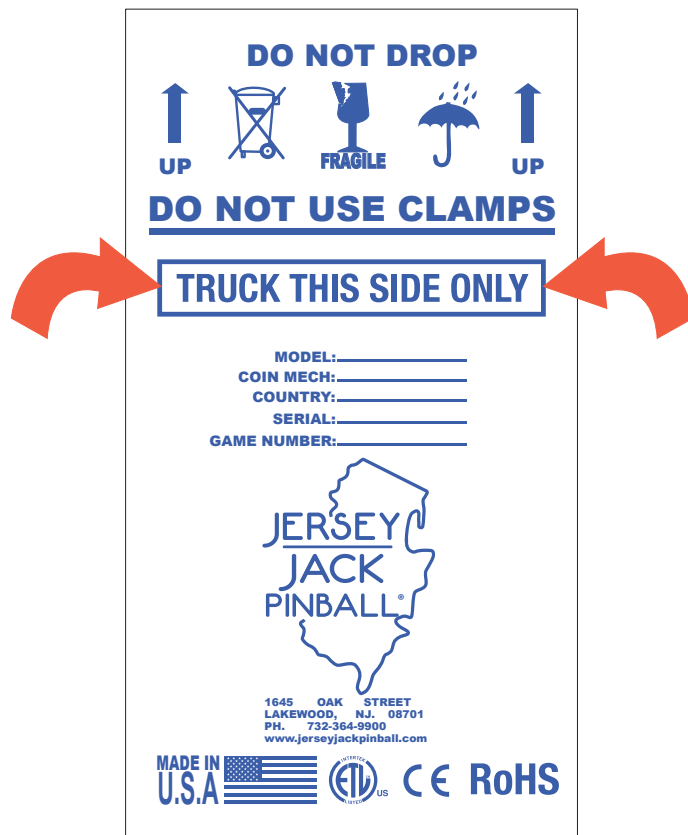
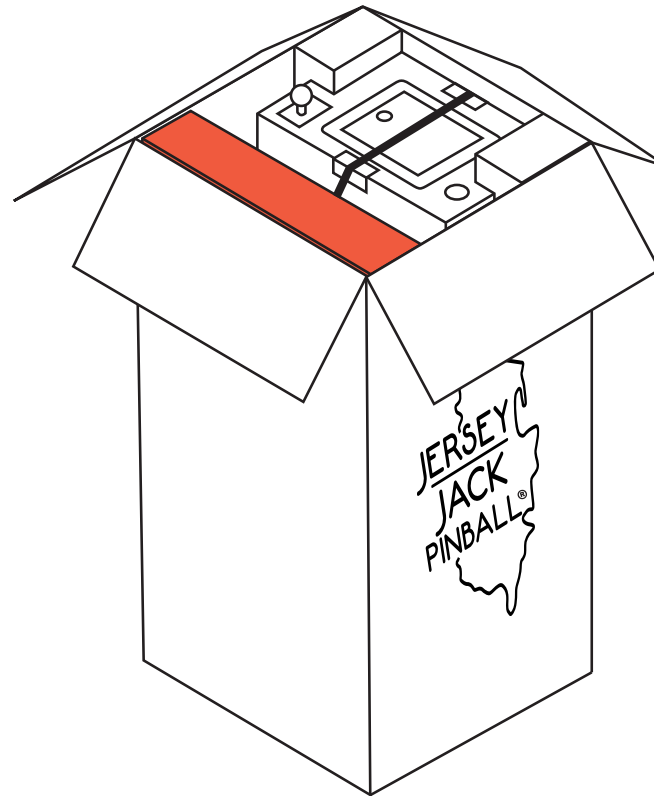

Figure A1. The “TRUCK THIS SIDE ONLY” side of the box.
Figure A2. Opening the shipping carton.
**1)** Using wire cutters, remove all shipping bands from the outside of the carton, noting the side with the “TRUCK THIS SIDE ONLY” marking (see figure A1). With a utility knife and needle-nose pliers, carefully cut the tape and remove all staples along the seams of the carton’s top flaps, then fold them open (see figure A2). Remove the large, flat sheet of cardboard. Pull out the large parts box (red in figure A2) and remove its contents. Check all loose parts against the packing list on this page.